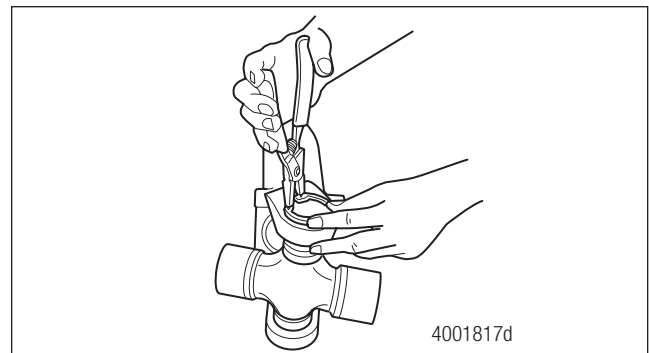

Figure 5.60
9. Use snap ring pliers to install the second snap ring into the snap ring groove. Figure 5.60.